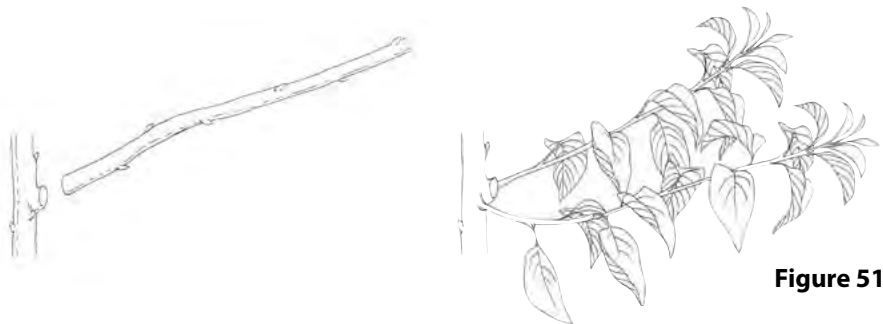

Figure 51
- When fruiting feathers become too long, they can be removed with a short stub to promote renewal of shoots close to the leader (Figure 51).